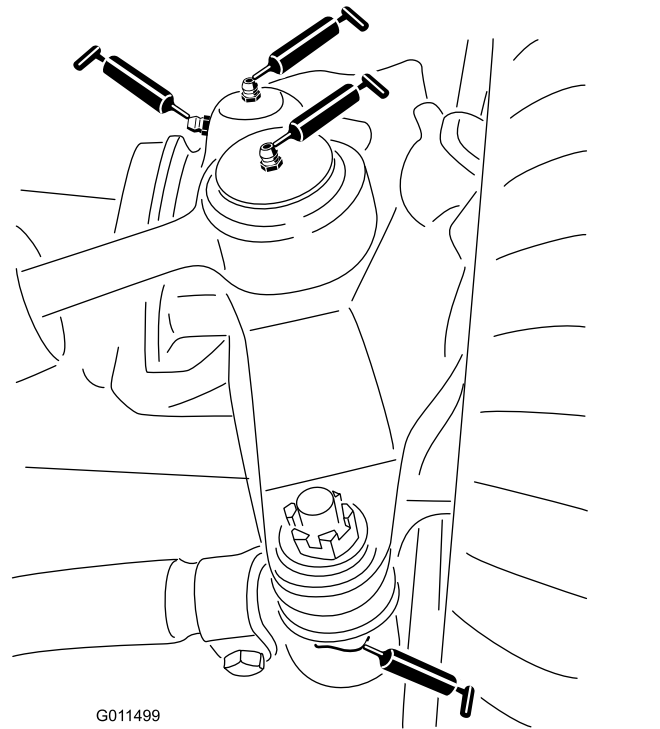

Figure 42
- 2 steering-cylinder-ball joints (Figure 42)
- 2 tie-rod-ball joints (Figure 42)
- 2 king-pin bushings (Figure 42).